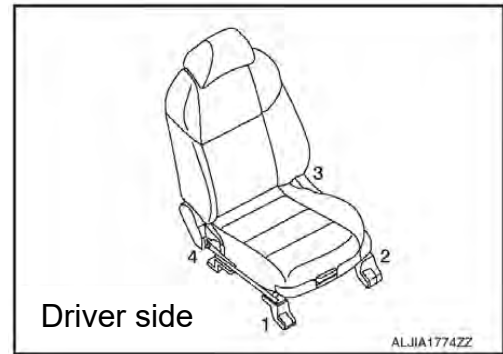

Figure 12
• Refer to Figure 12 for torque sequence.